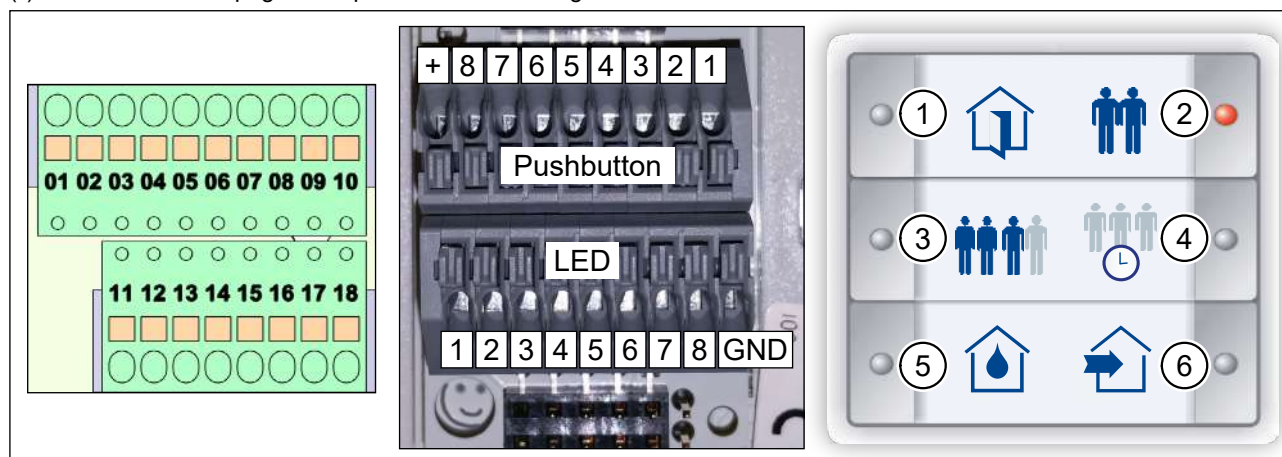

Fig. 28: Terminal blocks on ventilation unit, terminal blocks on InControl pushbutton sensor, insert sheet
- After wiring, place the insert sheet (Fig. 28) in the InControl pushbutton sensor.